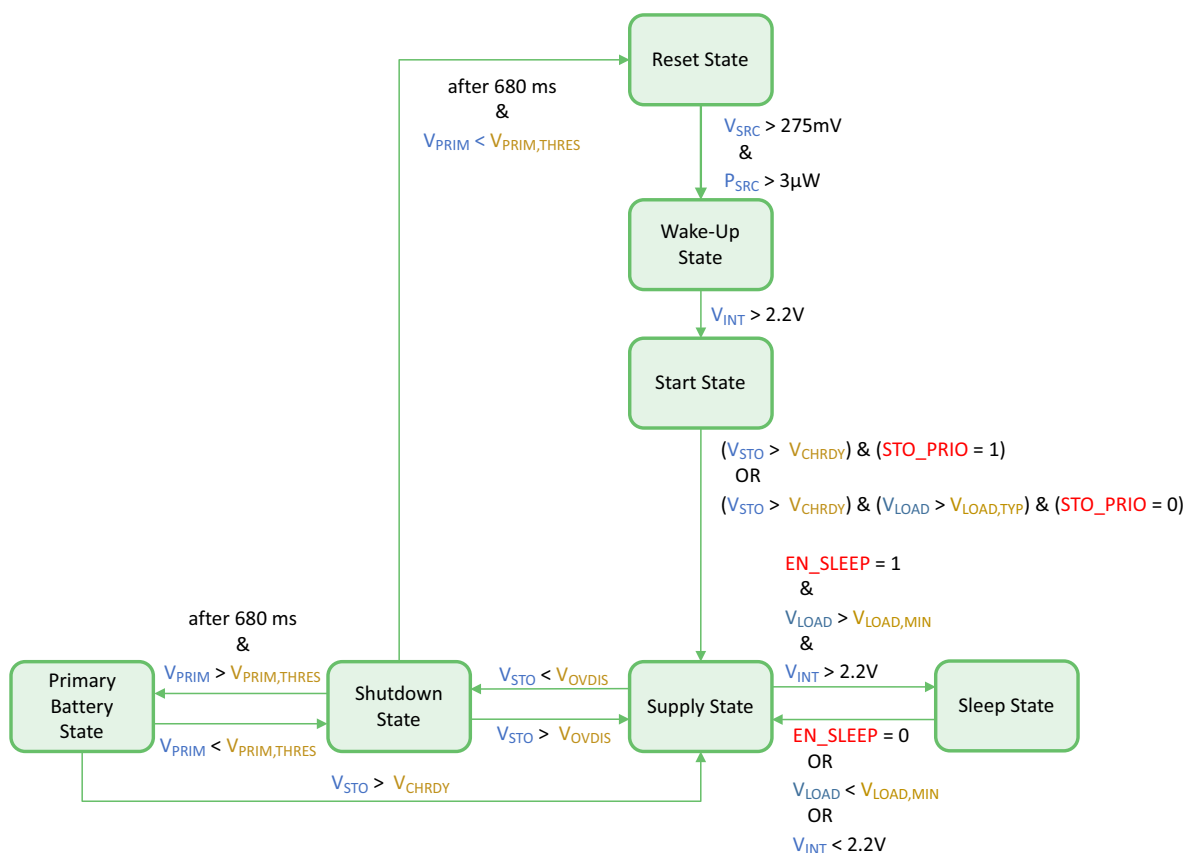

Figure 5: Diagram of the AEM10330 States
- If **EN_SLEEP** is asserted and conditions (shown on Figure 5) on V_{LOAD} and V_{VINT} are satisfied, the AEM enters **SLEEP STATE** (see section 7.5).
When **VSTO** drops below **VOVDIS**, the circuit compares the voltage on **PRIM_FB** to a 1V voltage reference to determine whether a charged primary battery is connected on **PRIM**. The voltage on **PRIM_FB** is set thanks to two optional resistances as explained in Section 8.9. If the voltage on **PRIM_FB** is higher than 1V, the circuit considers the primary battery as available and the circuit enters **PRIMARY BATTERY STATE** as shown on Figure 5.